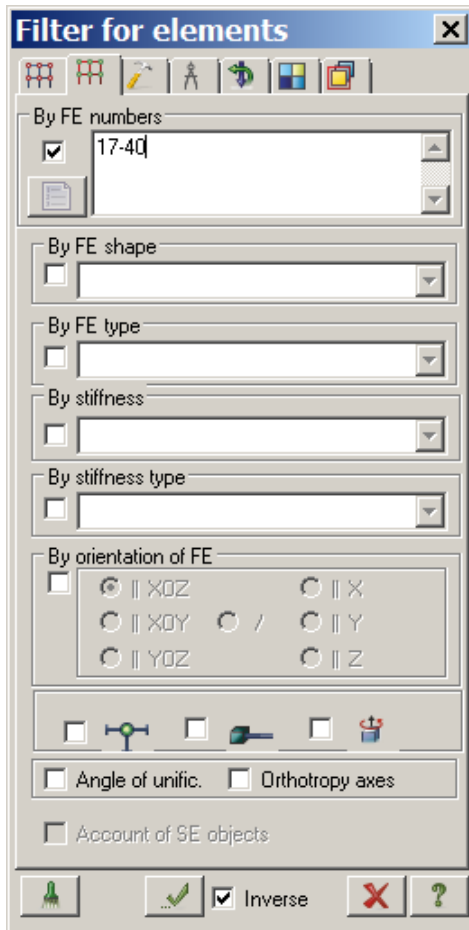

Figure 5.11 **Filter for elements** tab
- ⇒ In the **PolyFilter** dialog box, select the **Filter for elements** tab (the second tab) (see Fig.5.11).